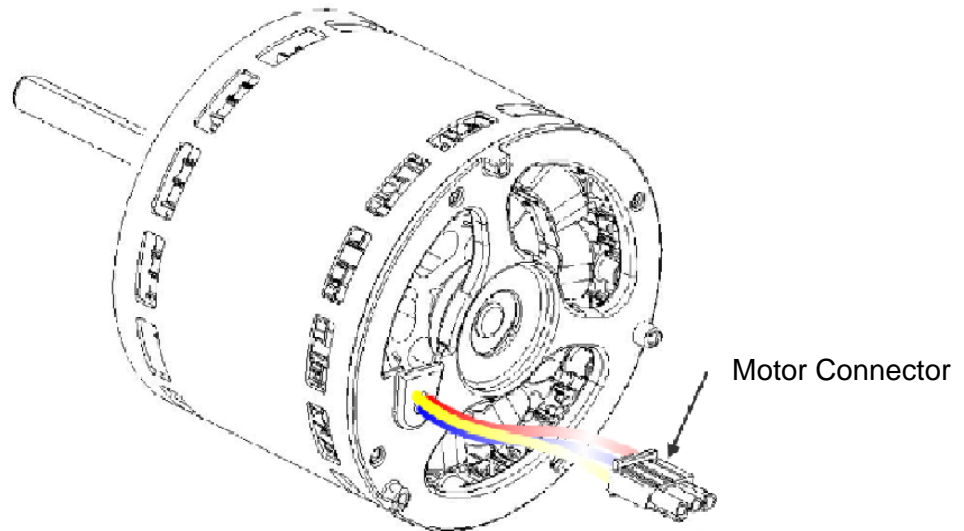

Figure 15
5. Inspect connector on back side of motor for bent, damaged, or recessed wires and terminals [Figure 15].